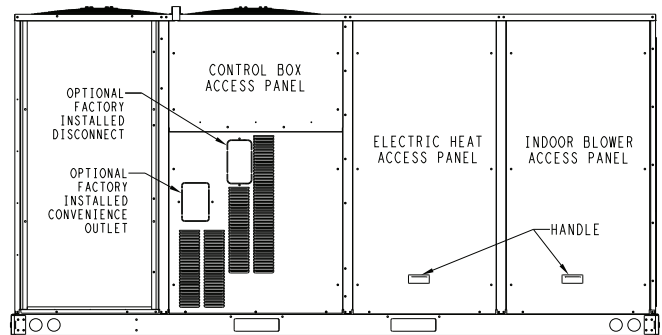

Fig. 14 — Typical Indoor Fan Motor Access Panel Locations
26. Remove the indoor blower access panel and the panel(s) covering the unit control box. (See Fig. 14.)
37. Re-install the Indoor blower access panel. (See Fig. 14.)
38. After powering unit controller, program the POL 224 controller. After all settings have been made, re-install the unit control box panel. (See Fig. 14.)